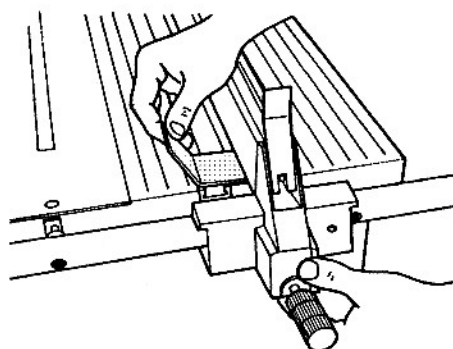

Fig. C-3
5. Loosen the fence base knob and re-mount the fence on the right side of the table. Place the fence shim between the bottom of the fence and table, then tighten the base knob only, as in Fig. C-3. Make sure the shim fits snugly or has some pressure against it. If it does not, push down on the fence.